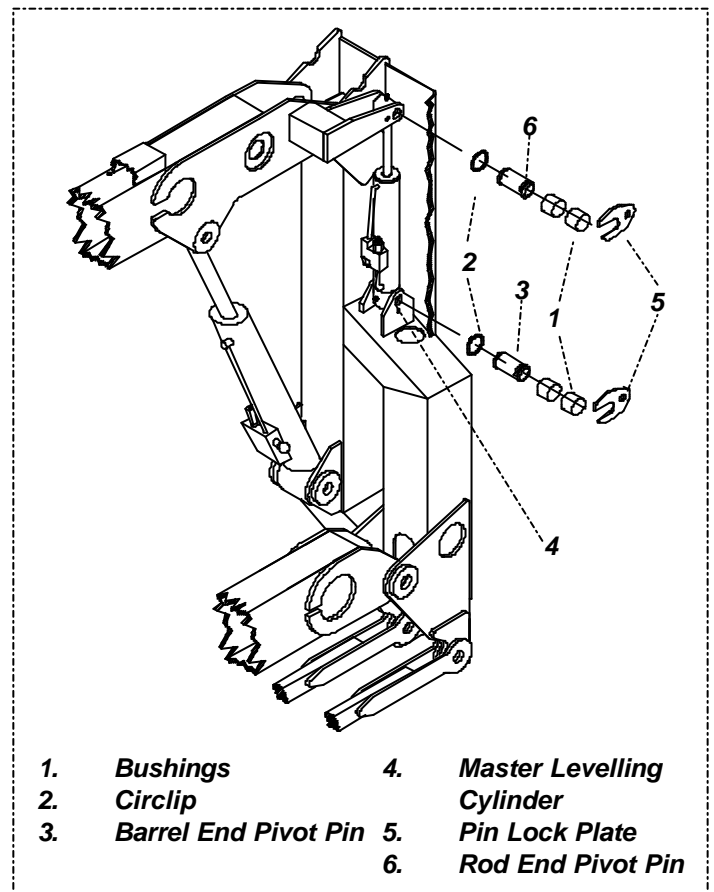

Figure 4-20: Master Levelling Cylinder
4.18 Master Levelling Cylinder (Figure 4-20)